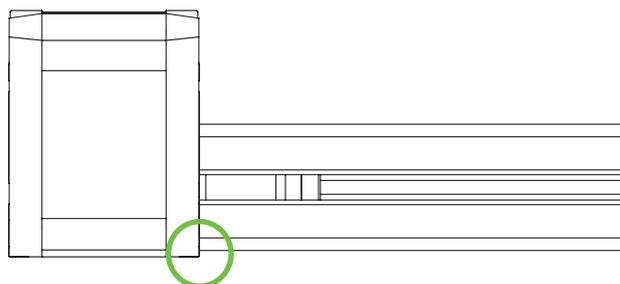

Fig. 6.3 Correct connection of the spacer profile on the linear axis: no protrusion
- ▶ Ensure that the spacer profile does not protrude beyond the axis base profile (see Fig. 6.3).